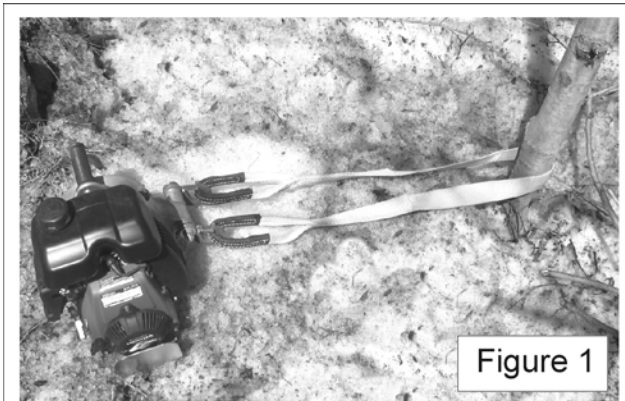

Figure 1
The engine on-off switch is located on the winch housing, to the left of the handle (figure 1 to the right).
Make sure to pull on the recoil starter in the axis of the rope outlet (figure 1 below). If you pull vertically (figure 2), the friction of the rope on the plastic cover might damage the rope and the cover.
If you are using the optional 85 mm (3-3/8") drum (PCA-1100 (not included)), follow these simple installation steps (figures 1, 2, 3, 4 & 5 can be found on the next page). All bolts require a 4 mm (5/32") hex wrench, included with your winch manual.
- 1) Remove the rope guide (figure 1);
- 1) Insert the spark arrestor into the exhaust tube. Make sure the holes are aligned (figure 1 to the right).
You have to attach the load to the end of the rope. Even if a simple knot can do the job, we recommend the installation of a hook with the bowline knot (figure 1 on the right) because it can be easily undone if you need to change the hook. Moreover, it retains about 70% of the rope's capacity while most knots will reduce it by more than 50%.
If you usually pull with a choker chain, use a grab hook (figure 1) or grab hook with latch (figure 2).
Go around the anchor point with the sling. Insert each end of the sling in one of the safety hooks located on the winch (figure 1).
Avoid installing the sling on sharp edges that might damage it. Whether you are using a post, a tree or a stump, always install the sling near the anchor's base (figure 1).
Position the winch in line with the load (figure 1). When the winch is under tension, it will try to align itself with the load. The friction of the sling against the anchor point could prevent correct alignment. If that is the case, release the tension on the rope and position the sling on the anchor point so that the tension is equally distributed on both winch anchor hooks.
- 1) Push the safety hooks in the rectangular openings of the hitch plate (figure 1 next page);
- 1) Slide the square tubing into the vehicle's receiver and secure it with both the hitch pin and the "R" pin (figure 1, no 1).
- 1) Place the tree/pole mount at the base of the tree or pole. Insert the sling's hook into the anchor point on the left (figure 1, no 1); then feed the sling's end through the ratchet system (figure 1, no 2);
- 2) Run the rope over the rope keeper and the front pulley and under the drum (figure 1);
- 2) Wrap the rope twice around the rope hook to relieve tension from your hands (figure 1).
- 1) If you have to link two rope lengths, do it with two bowline knots (figure 1) (see section 3.2.1).
- 2) Leave about 1 m of rope tailing out of the knot on the rope holding the load (figure 1, no 1). You will need it to resume winching after undoing the knots.